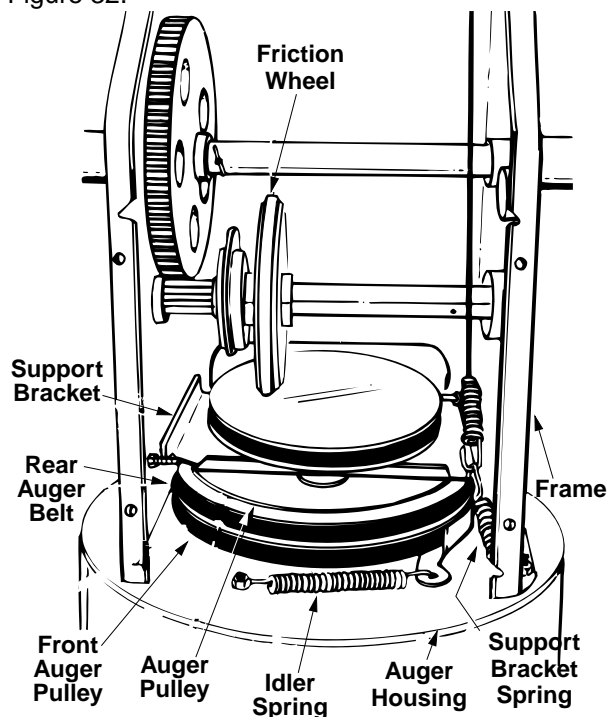

Figure 31
6. Unhook the idler spring from the hex bolt on the auger housing. See Figure 31.
8. Lift the rear auger belt from the auger pulley, and slip belt between the support bracket and the auger pulley. See Figure 31. Repeat this step for front auger belt.
4. Slip belt between friction wheel and friction wheel disc. See Figure 31. Remove and replace belt. Reassemble following the instructions in reverse order.